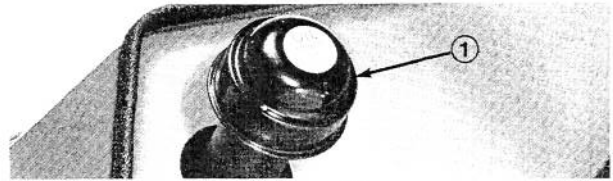
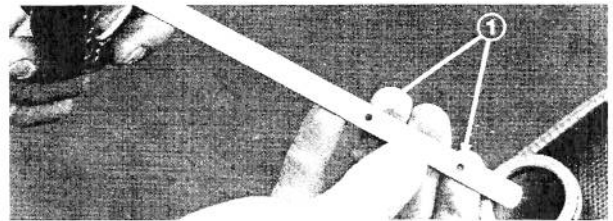

Figure 17
Figure 18
1. Remove the cap from the top of the reservoir (Fig. 17) and check the oil level. The oil should be up to the lower hole on the dipstick when the oil is cold and between the holes at operating temperatures. Add SAE 10W-30 or 10W-40 engine oil if the level is low (Fig. 18). Reinstall the cap. Make sure it is firmly in place.